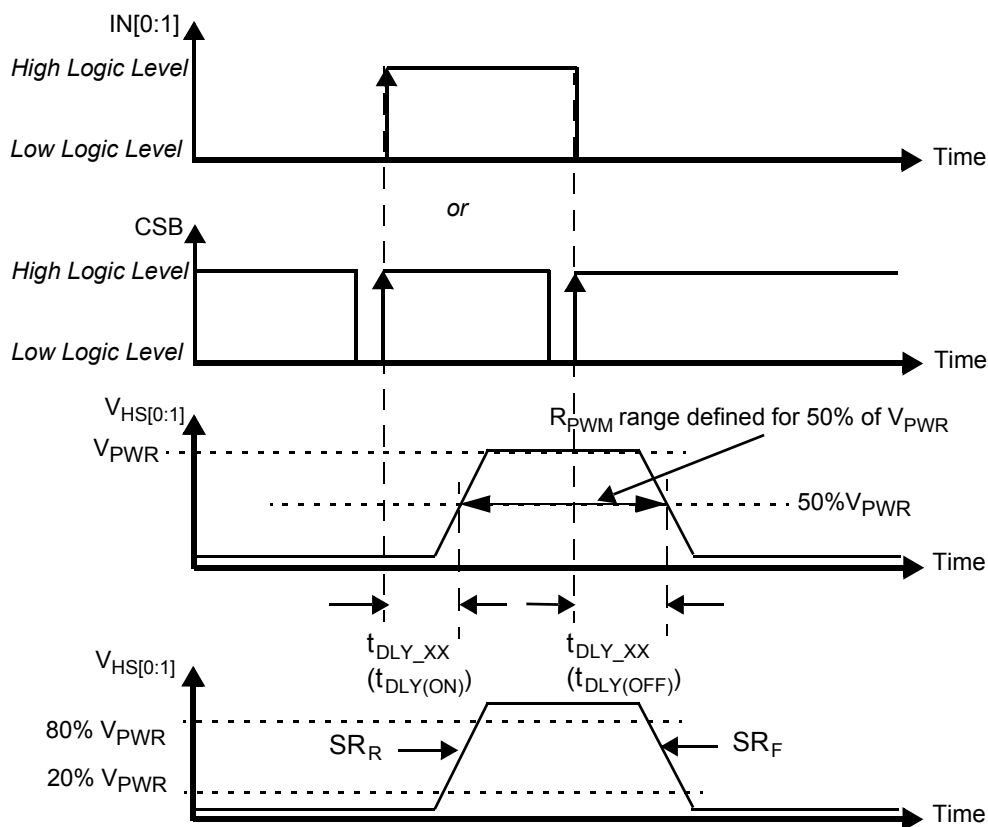
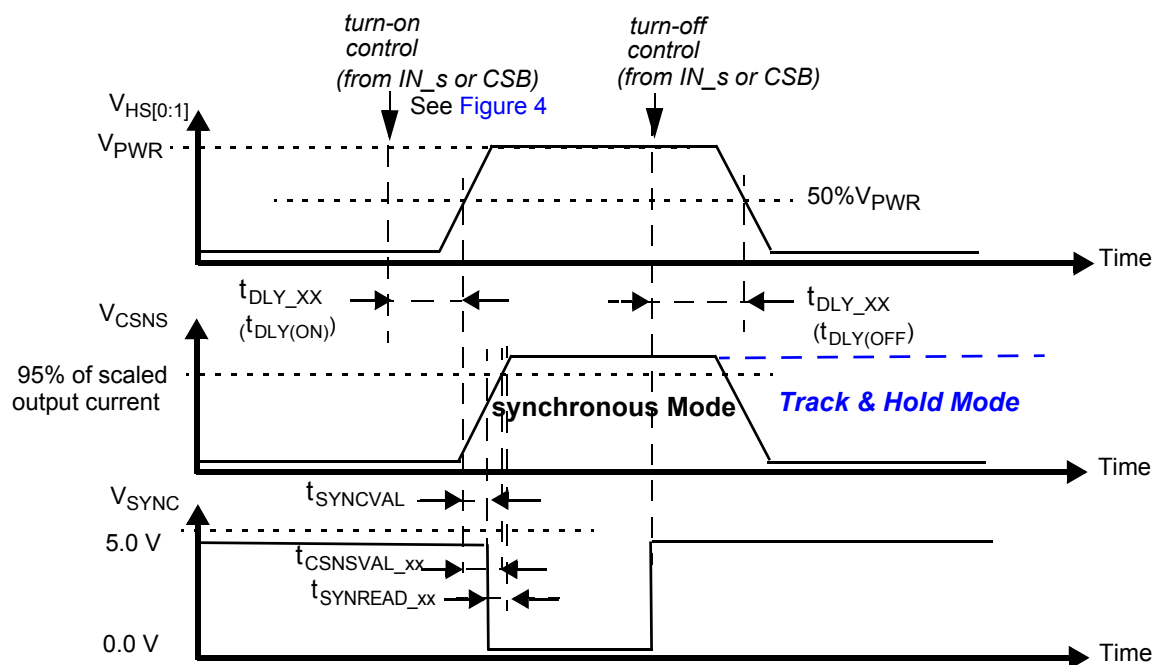

Figure 4. Output Voltage Slew Rate and Delay
Figure 9. Synchronous & Track-and-Hold Current Sensing Modes: Associated Delay & Settling Times
27. Rising and Falling edge slew rates specified for a 20% to 80% voltage variation on a $10.0\text{ }\Omega$ resistive load (see Figure 4).
29. Time required to switch off the channel after detection of overtemperature (OT), overcurrent (OC), SC or UV error (time measured between start of the negative edge on the FSB pin and the falling edge on the output voltage until $V(\text{HS}[0:1]) = 50\%$ of V_{PWR}).
30. Settling time ($= t_{CSNSVAL_XX}$), SYNC output signal delay ($= t_{SYNCVAL_XX}$) and Read-out delay ($= t_{SYNREAD_XX}$) are defined for a stepped load current ($100\text{ mA} < I(\text{LOAD}) < I_{OCLX A \text{ FOR CSNS_RATIO_S} = 1}$, AND $300\text{ mA} < I(\text{LOAD}) < I_{OCLX A_0 \text{ FOR CSNS_RATIO_S} = 0}$). (see Figure 9 and Output Current Monitoring (CSNS)).
To synchronize current sensing with an external process, the SYNC signal can be connected to a digital input of an external MCU. SYNC is asserted logic low when the current sense signal is accurate and ready to be read. The current sense signal on the CSNS pin has the specified accuracy $t_{SYNREAD_XX}$ seconds after the falling edge on the SYNC pin (Figure 9) and remains valid until a rising edge is generated. The rising edge that is generated by the SYNC pin at the turn-OFF instant (internal or external) may also be used to implement synchronization with the external MCU. Parameter t_{SYNVAL_XX} is defined as the time between the instant at the middle of the output-voltage rising edge ($HS[0:1] = 50\%$ of V_{PWR}), and the instant at which the voltage on the SYNC-pin drops below 0.4 V (V_{SOL}). The SYNC pins of different devices can be connected together to save micro-controller input channels. However, in this configuration, the CSNS function of only one device should be active at a time. Otherwise, the MCU does not determine the origin of the SYNC signal. The SYNC pin is open drain and requires an external pull-up resistor to V_{DD} .